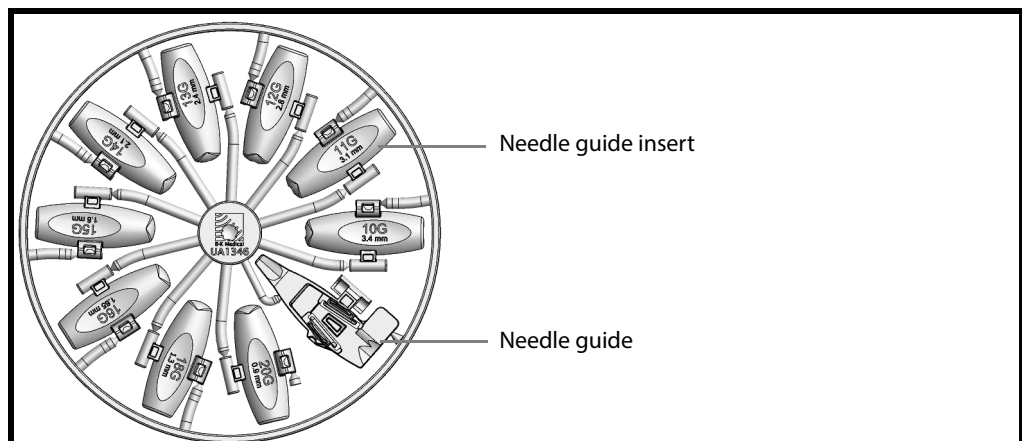

Figure 3. Palette with needle guide UA1346 and needle guide inserts.
- 2 Select the needle guide and the required needle guide insert by breaking them off the palette, see Fig. 3.